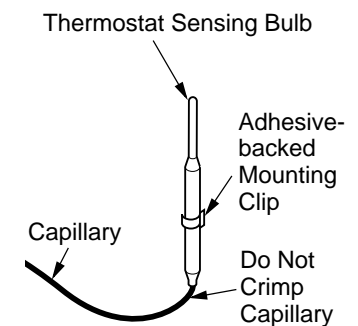

Figure 46 - Positioning the Thermostat Sensing Bulb in the Vertical Position with the Capillary at the Bottom
4. The mounting clip must be a minimum of 3" from bottom of fireplace to prevent crimping of capillary. Once you have decided on a location, clean the area thoroughly. Remove the paper backing from the adhesive on back of mounting clip. Press the clip into the new location so that the thermostat sensing bulb will be positioned vertically with the capillary at the bottom (see Figure 46). Slide the thermostat sensing bulb into the clip.